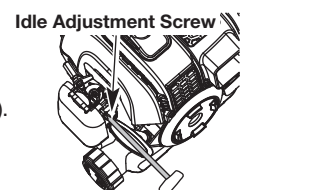

Fig. 33
The idle speed of the engine is adjustable. An idle adjustment screw is between the air filter cover and the engine starter housing (Fig. 33).
2. Release the throttle trigger and let the engine idle. If the engine stalls, insert a small phillips screwdriver into the idle adjustment screw (Fig. 33). Turn the idle speed screw **clockwise** 1/8 of a turn at a time (as needed) until the engine idles smoothly.